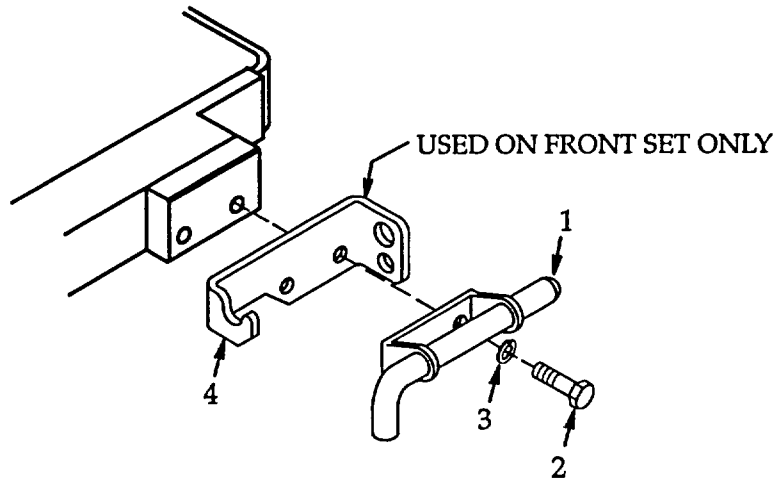

Figure 4-18. Latch Hinge and Latch Hinge Doubler.
- a. **Removal.** See figure 4-18.
- (1) Shutdown the FDECU per paragraph 2.4.
b. **Installation.** See figure 4-18.
- (1) Install latch hinge doubler (4) (front set only) and latch hinge (1). Align mounting holes and secure with two new lock washers (3) and screws (2).
- (2) Connect FDECU to power source and operate per paragraph 2.4.